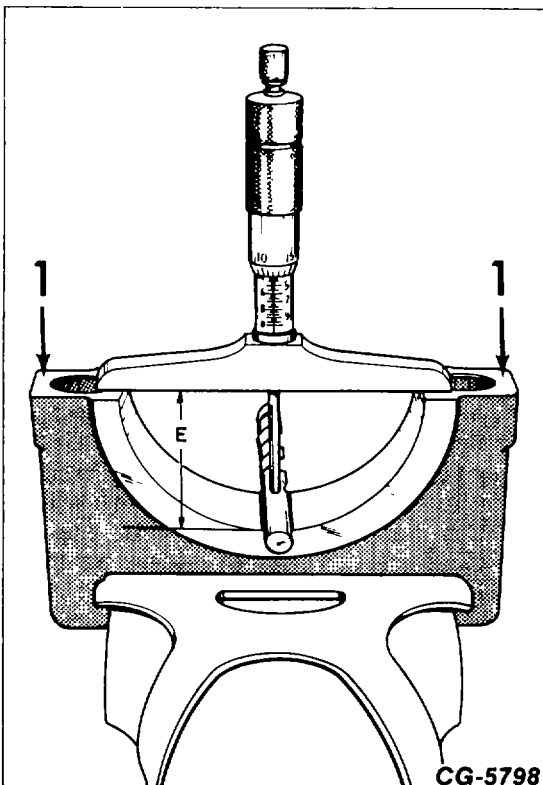

Figure 25. - Measuring Dimension "E"
1. Place a drill rod or a new drill of any size from 6 to 13 mm (1/4 to 1/2 in.) in the bore of the OLD caps. Measure the distance from the face of the cap (1, Fig. 25) to the drill rod shank with a depth gauge as shown and record the reading.
Measure the diameter of the drill rod shank with a micrometer and add this reading to the one taken with the depth gauge, to derive dimension "E" in Fig. 25.
2. Mill or grind surface "D" (1, Fig. 25) of the NEW cap to dimension "E" plus 0.05 mm (0.002 in.).